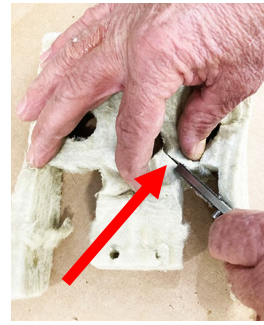

Figure 61
62. Using a boxcutter or knife, cut a slit between the inner circle to the opening as shown (see Figure 61).